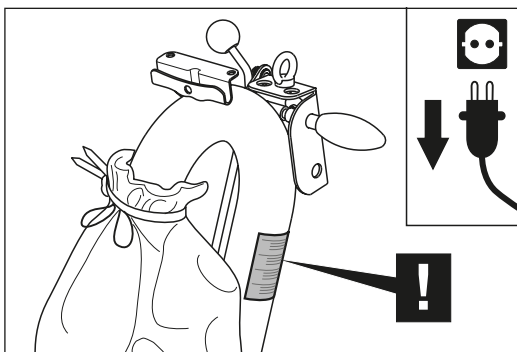

Fig. 43 **Note the warning on the guide tube!**
- **Note the warning on the guide tube (fig. 43)!**